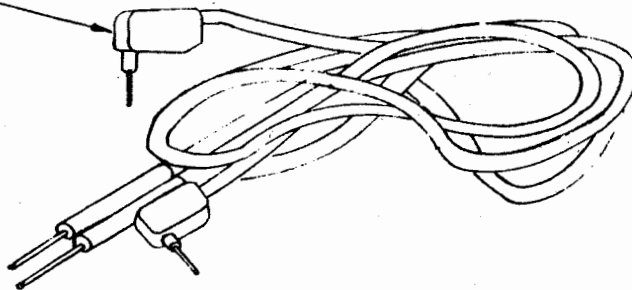

Figure 4-3. Typical Multimeter (TS-352/U Illustrated)
a. GENERAL DESCRIPTION.- Multi-meters are designed for voltage, current, and resistance tests on electronic and electrical equipment. The multi-meter consists of a meter, panel controls, batteries, and circuit elements enclosed in a molded bakelite or sheet-metal case. A carrying handle is usually provided as well as a pair of test leads. Figure 4-3 shows a typical multimeter for field use. Internal dry cell batteries supply the power requirements for resistance measurements.